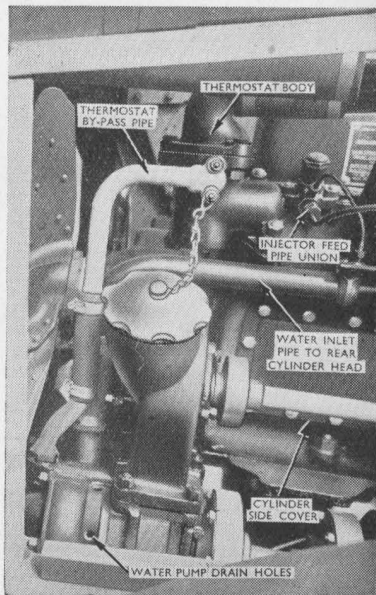

Fig. 17. Part View—Nearside Front of Engine.
- (b) Top water pipe—thermostat body (*Fig. 17*).
- (c) Thermostat body—front cylinder head (*Fig. 17*).
- (l) Cylinder side cover (*Fig. 17*).
- (c) Water inlet pipe from water pump (*Fig. 17*).
- (e) By-pass pipe (*Fig. 17*).
Look for leakage from the 4 drain holes in the neck of the fixing flange. These 4 holes must be kept clear of obstruction. (Fig. 17).
See that blades are not bent or broken and check for loose rivets (Fig. 17).
If the system is free of air, the engine when hot, should accelerate rapidly and without hesitation. If this does not occur, then with engine idling, slack off each injector union (*Fig. 17*) in turn (one at a time), just sufficiently to allow fuel to seep out, and watch for air bubbles between the pipe and the union nut. Should bubbles be detected, leave the nut slack until air free fuel appears. Treat each union in turn in this manner **under supervision**.